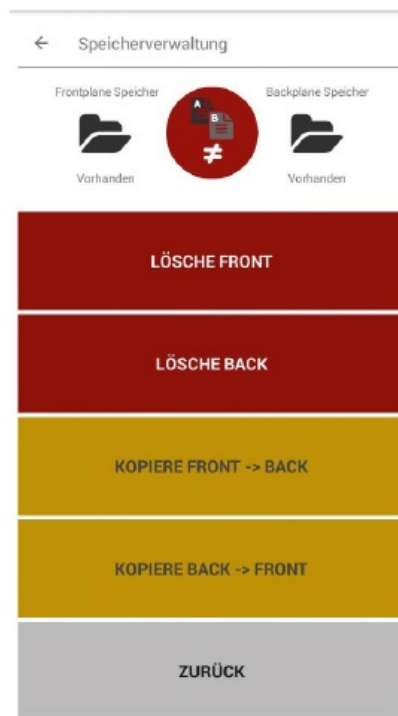

Fig. 12
The red icon  is displayed when the front (i.e. main module) and back (i.e. wall module) memories do not match (Fig. 12).
2. Select the button “KOPIERE FRONT -> BACK” (COPY FRONT -> BACK) to copy the data to the wall module (Fig. 12).